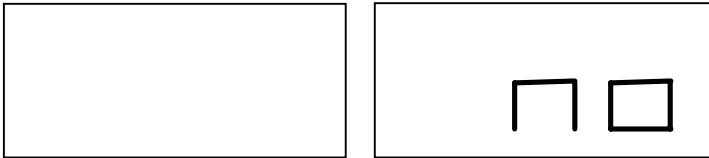

Fig. F.6.2 Hidden Weight Programme not possible or chosen position not allowed
2. Press [F+P5] to run the Hidden Weights programme. If the wheel is balanced on the external side, the machine will display the message shown in figure F.6.2 for about 1 second on the right display and a triple beep will indicate that the operation is not allowed.
6. If the angle is greater than 120°, the machine will display the message shown in figure F.6.2 for one second and will emit a triple beep indicating that another point must be chosen. If the angle instead is less than 120°, the machine will display the message shown in Fig. F.6.4, allowing you to continue with the next step.